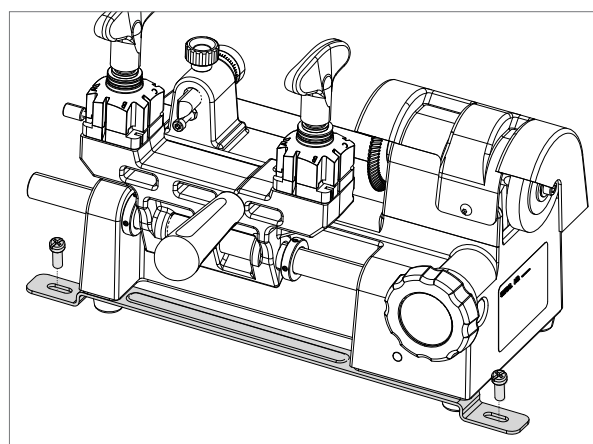

Fig. 13
- 4) Return the machine to its upright position and fix it on the work top (Fig. 13).